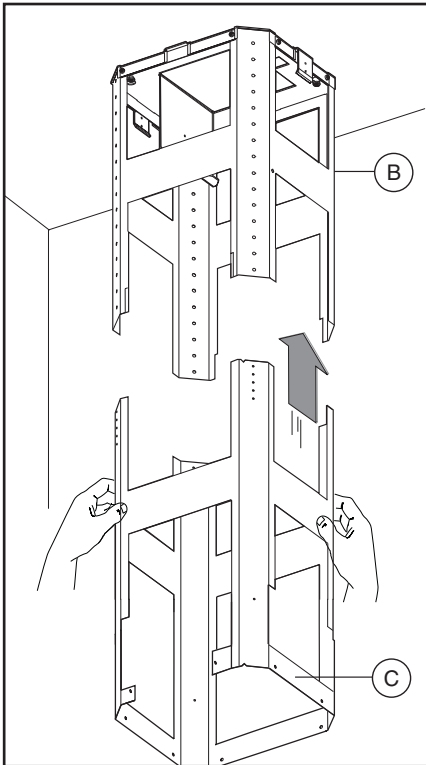

Fig.4
- Take the lower part of the telescopic structure **C** and insert it into the upper structure **B** (**Fig.4**).